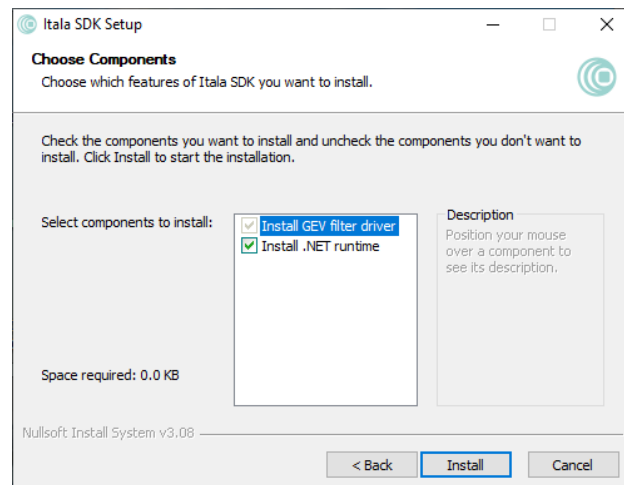

Figure 12: Components selection window.
5. Select the components which need to be installed (Fig.12). In case of installation of the filter driver only, step 6 can be skipped.